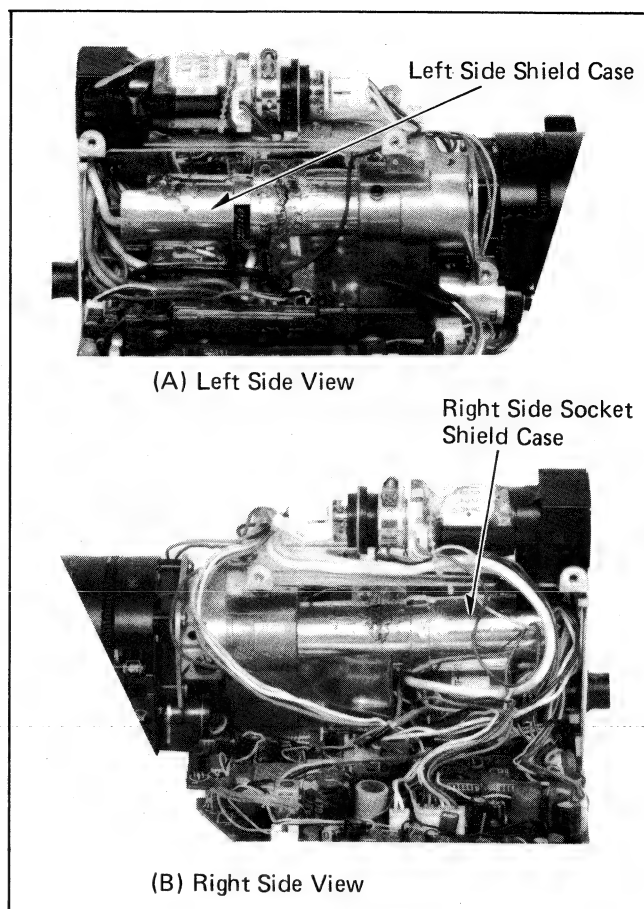

Fig. 4
- 3-3. Unsolder and remove the left and right socket shield cases (see Fig. 4).